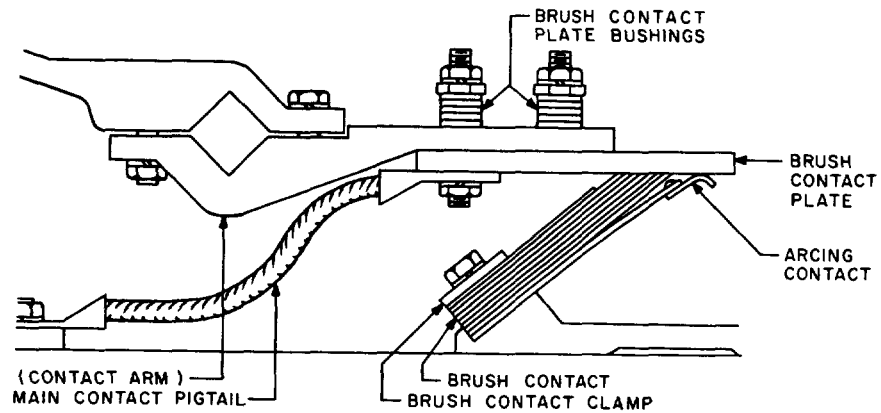

Fig. 8—Main Contact Structure of 150-Ampere Contactors
**3.08 Brush Contacts—Fig. 8, 9, and 10**
### 3.09 Brush Contact Plate—Fig. 8